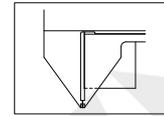

Fig.1
(1) The calibration method for the '0' position of the tooth thickness ruler: wipe the measuring surfaces of the two measuring jaws, move the tooth thickness ruler frame to make the two measuring surfaces contact, as shown in Fig.1. After the contact is stable, the '0' engraved line on the vernier ruler body should coincide with the '0' engraved line on the ruler body; the vernier tail engraved line should coincide with the corresponding engraved line on the ruler body.